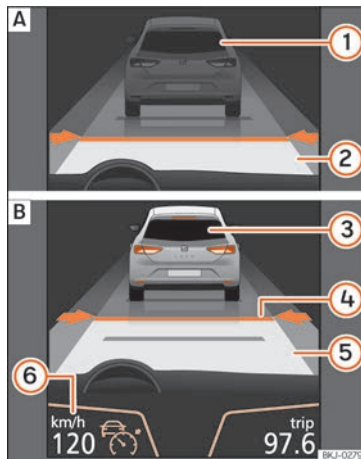
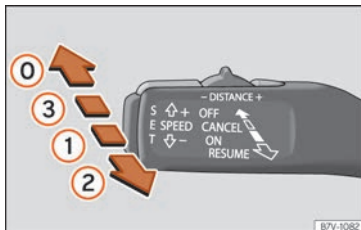
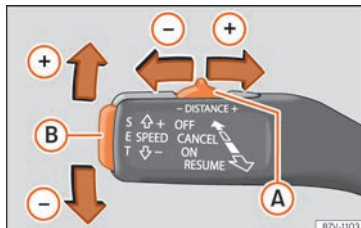
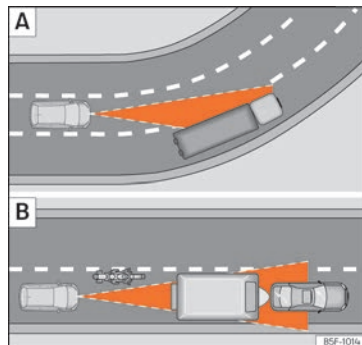

**Fig. 252** On the instrument panel display: [A] ACC inactive (Standby). [B] ACC active.
**Fig. 253** On the left of the steering column: operating the ACC with the third lever.
**Fig. 254** On the left of the steering column: operating the ACC with the third lever.
**Fig. 255** **A** Vehicle on a bend. **B** Motorcyclist ahead, out of range of the radar sensor.
Indications on the display » **Fig. 252:**
When the ACC is connected, the green control lamp (ACC) will light up on the instrument panel, and the programmed speed and ACC status will be displayed » **Fig. 252**.
- To activate the ACC, move the third lever to position **ON** » **Fig. 253 1**. At this time, the ACC is not active and there is no programmed speed.
- Next, press button **SET** » **Fig. 254 B** or move the lever to position **RESUME** » **Fig. 253 2**. At this moment the ACC is activated and the current speed and distance are programmed. The picture on the instrument cluster will change to Active » **Fig. 252 B** mode.
- To set the speed, move the third lever up (+) or down (-) to the desired speed » **Fig. 252 6**. The speed adjustment is made at 10 km/h (6 mph) intervals.
- If you wish to increase speed by intervals of 1 km/h [0.6 mph], move the lever to position **RESUME** » Fig. 253 ②, or to decrease it press button **SET** » Fig. 254 ⑧.
- To increase or reduce the distance, press button ① to the right or left » Fig. 254.
The instrument panel display modifies the selected distance » Fig. 252 ④. There are 5 distance levels to choose from. SEAT recommends level 3. The set distance can be changed when the vehicle is stopped or while driving » ①.
- To disconnect the ACC move the lever to position **OFF** (fixed) » Fig. 253 ①. An **ACC deactivated** message appears and the function is totally deactivated.
System acceleration can be interrupted at any time by pressing the brake or moving the third lever to position **CANCEL** » **Fig. 253** .
When entering or leaving some curves, the radar sensor may cease to sense the vehicle driving in front of it, or react to a vehicle in the adjacent lane » **Fig. 255** [A]. The vehicle may brake unnecessarily or stop reacting to the vehicle in front. In this case, the driver has to intervene by accelerating or interrupting braking by applying the brake or pushing the third lever to position **CANCEL** » **Fig. 253** .
The radar sensor can only detect narrow vehicles or vehicles that circulate out of alignment when they enter its range » **Fig. 255** [B]. In these cases, you should brake as necessary.